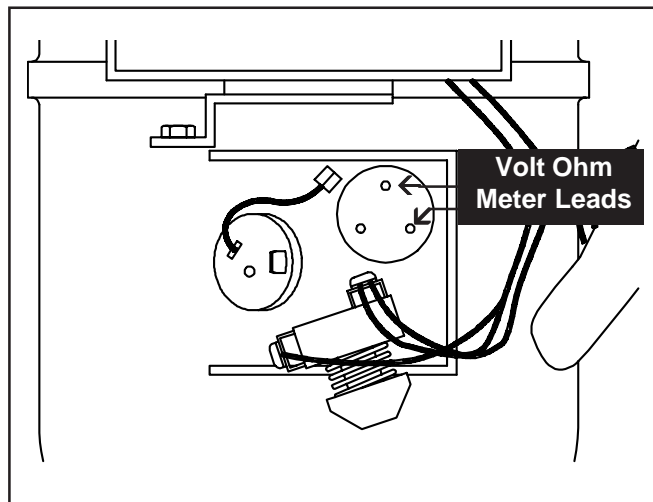

Figure 31. Check Windings
5. Set your ohmmeter at X1 and connect the ohmmeter to terminals C and R to check resistance through run windings. Refer to Figure 31 for compressor terminals.